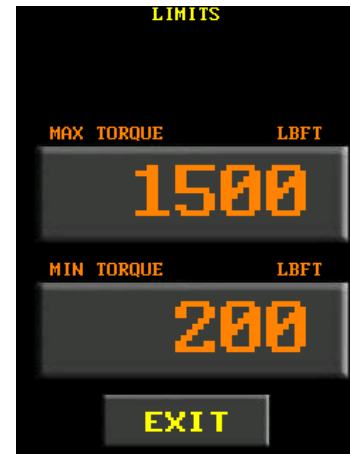

Figure 5.17-2: Set Min and Max Torque Limits
5. Set the Minimum and Maximum Torque Limits (Figure 5.17-2). Select the "Min Torque" or "Max Torque" buttons and enter the values using the keypad. Min Torque may be set to 0.